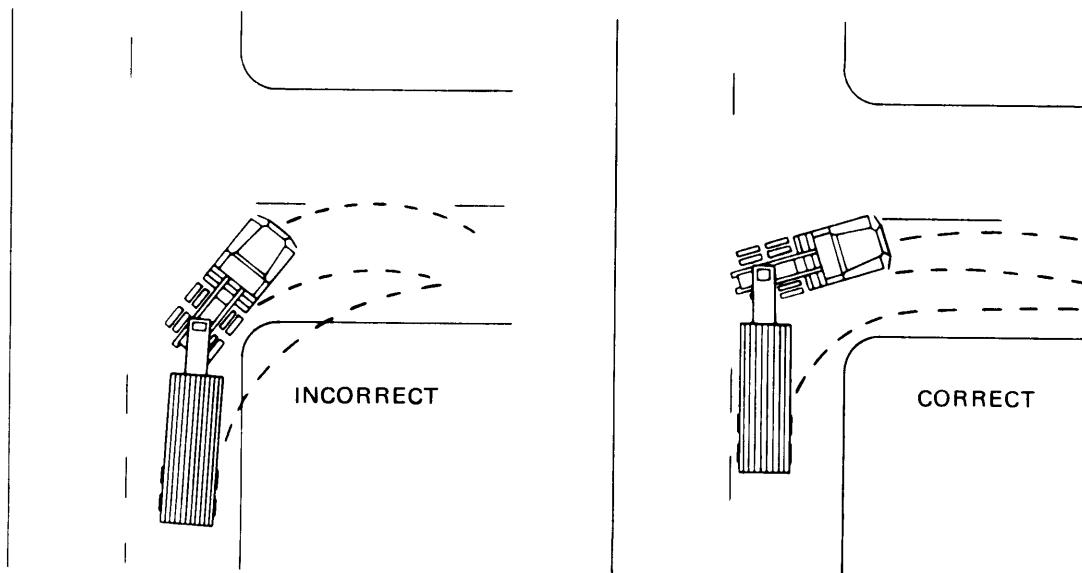

Figure 2-20. Turning
- (1) Driving. When driving the towing vehicle and semicrailer, the overall length of the unit must be kept in mind when passing other vehicles and when turning. Because the unit is hinged in the middle, backing is also affected. The semicrailer's payload will affect stopping and off-road maneuverability.
- (2) Turning. When turning corners, allow for the semicrailer wheels turning inside the radius of the towing vehicle. Make a right turn by driving the towing vehicle about halfway into the intersection and then cutting sharply to the right. This will keep the semicrailer off the curb (fig. 2-20).
- (3) Stopping. The brakes of the towing vehicle and the semicrailer are applied at the same time in normal operation when the driver steps on the brake pedal. Brake pressure should be applied gradually and smoothly. The semicrailer brakes may be applied separately by using the semicrailer handbrake control lever on the steering column. On steep downgrades or slippery surfaces, the semicrailer brakes should be slowly applied before the towing vehicle brakes. This will reduce the possibility of jack-knifing the semicrailer.
- (4) Parking. When the towing vehicle and the semicrailer are to be parked and left unattended, set the parking brake on the towing vehicle and apply the brakes on the semicrailer. Turn off the towing vehicle's engine before leaving the cab. Block the semicrailer wheels with chock blocks.